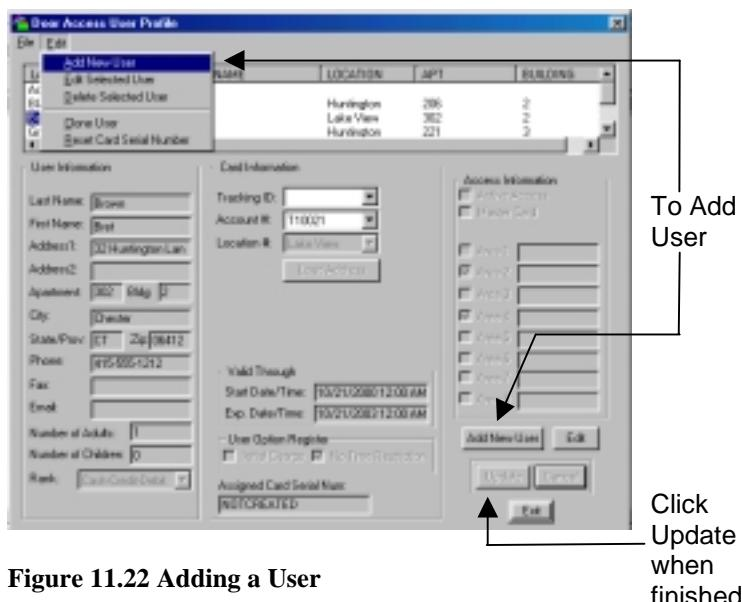

Figure 11.22 Adding a User
1. In the Door Access User Profile window click the Add New User button or select Add New User from the Edit drop-down menu (Figure 11.22).
3. After verifying that all user information and access privileges have been entered correctly, click the Update button (Figure 11.22).